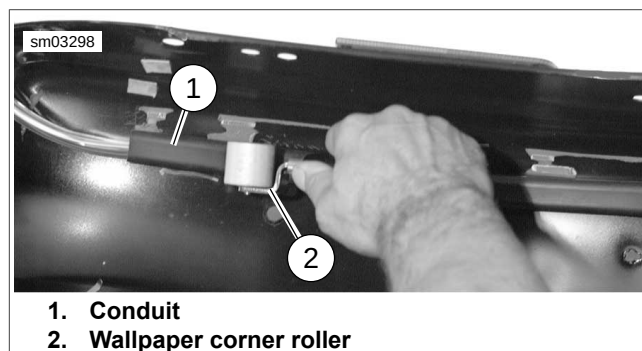

Figure 2-120. Purging Air Between Adhesive and Fender
9. See Figure 2-120. Using a wallpaper corner roller (available at most home improvement stores), roll along conduit to purge the air from between the adhesive and the fender.